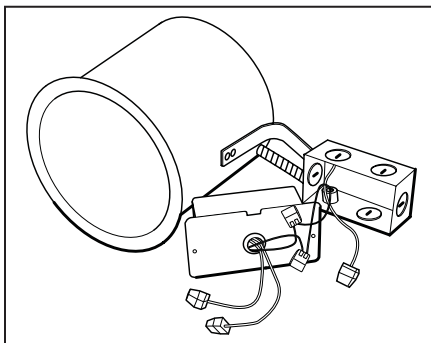

Figure 7
**Step 2.** Remove wiring box cover. Remove the appropriate knock-out(s) to accommodate the type of electrical service to be used/allowed by your local electrical code (Fig. 7):